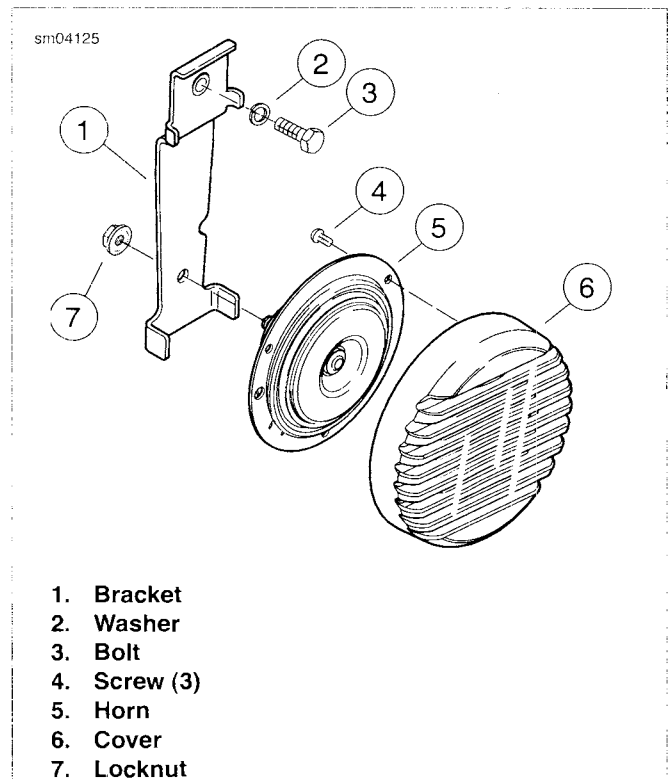

Figure 7-83. Horn: FXCWC
1. See Figure 7-83. Remove bolt (3) and washer (2) to detach horn bracket (1) from vehicle.
3. Remove locknut (7) to detach horn from bracket.
4. Remove screws (4) to detach cover (6) from horn (5).
- a. Attach cover to horn with screws (4). Tighten to 40-50 **in-lbs** (4.52-5.65 Nm).
- b. Attach horn to bracket with locknut (7).
8. Attach horn bracket to vehicle using washer (2) and bolt (3). Tighten to 13-15 ft-lbs (17.64-20.36 Nm).